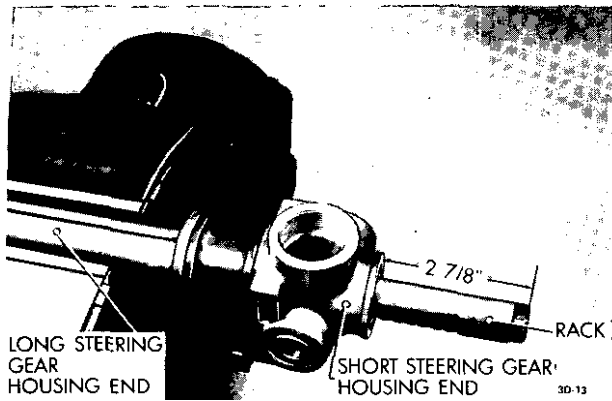

Figure 3D-13 Steering Gear Housing With Rack
2.. Insert long toothless end of rack into short end of housing until rack protrudes equally (approximately 2- 7/8 inch) out of both ends of housing. See Figure 3D- 13.
Check to insure that three air channels of sintered metal bushing (See Figure 3D-17) are not obstructed by lubricant. If air channels are blocked, a vacuum condition in the bellows **may result** during operation of the gear assembly. Under such circumstances, the bellows will be drawn inward and jam into the rack teeth.